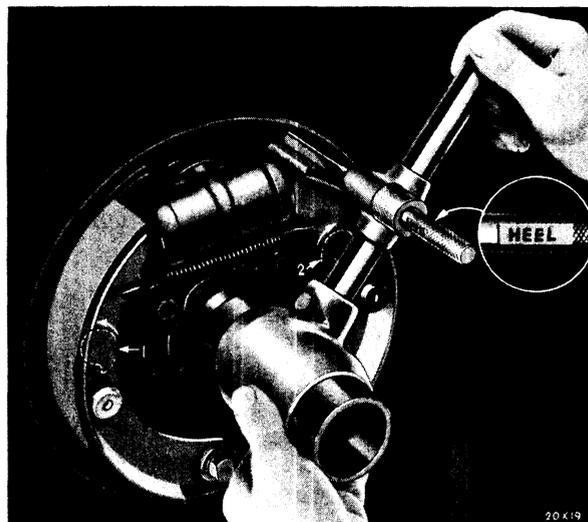

Fig. 21—Checking Toe Adjustment
- (4) Swing brake gauge around until finger is over "toe" of brake shoe. Turn shoe adjusting cam until lining at toe of shoe just contacts gauge finger, as shown in Figure 21.